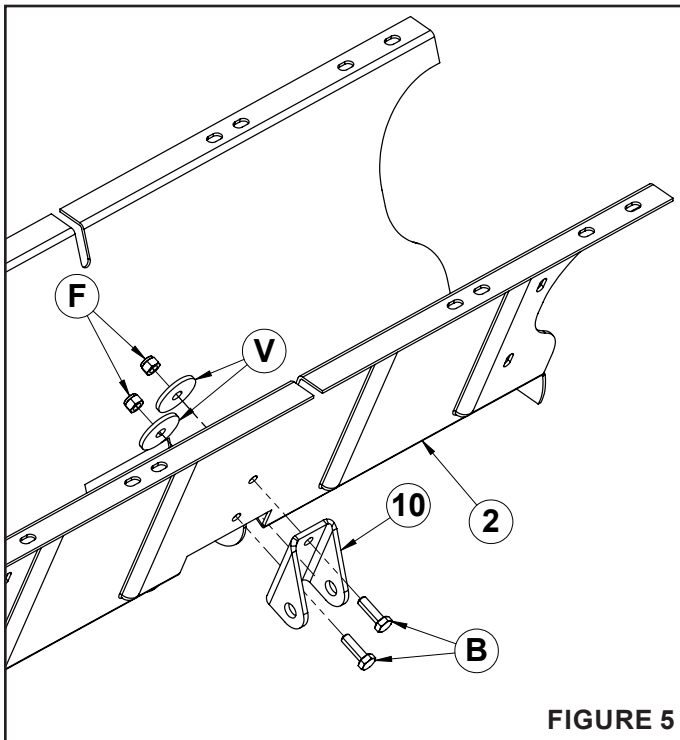

FIGURE 5
STEP 5: (SEE FIGURE 5)
- Orient the dump clevis (10) as shown below.
- Install two 5/16" bolts (B) through the dump clevis (10) and wheel support (2).
- Secure with two 1-1/2" washers (V) and 5/16" nylock nuts (F).